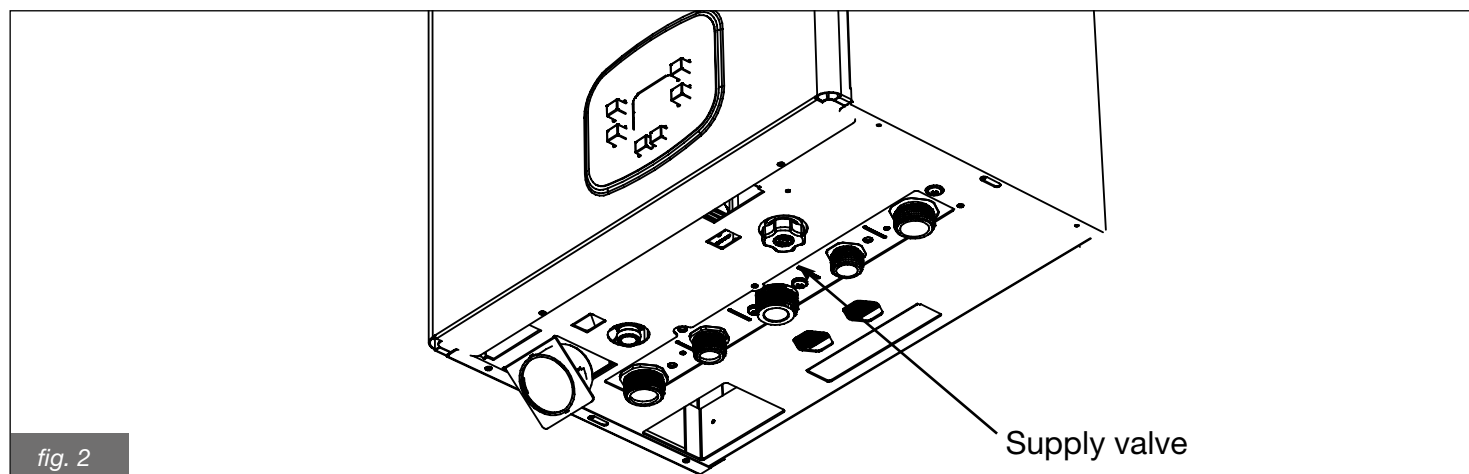

fig. 2
In case of flashing code error **E02** indicating the blocking due to low system pressure, feed the system by acting on the filling tap fig. 2 (for SV models the tap is located on the cold water inlet pipe).
- rotate the filling valve knob (fig. 2) counter-clockwise to feed water into the boiler;